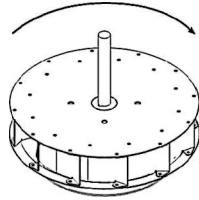

Figure 7
2. Check wheel rotation (viewing from the shaft side) by momentarily energizing the unit. Rotation should be clockwise as shown in Figure 7 and correspond to the rotation decal on the unit. If when rotation is incorrect, reverse two of the wiring leads or check motor wiring for single phase. Fan RPM should be checked and verified with a tachometer.